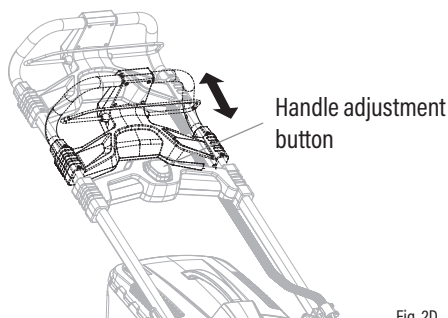

Fig. 2D
4. The handle length can be adjusted to 2 extended positions. Press the handle adjustment button and pull the handle to the desired position (Fig. 2D).